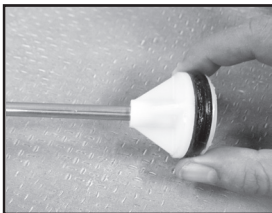

Figure 8
3. Inspect o-ring. If worn or damaged, remove and replace. Lubricate o-ring with petroleum jelly. **(See Figure 8)**